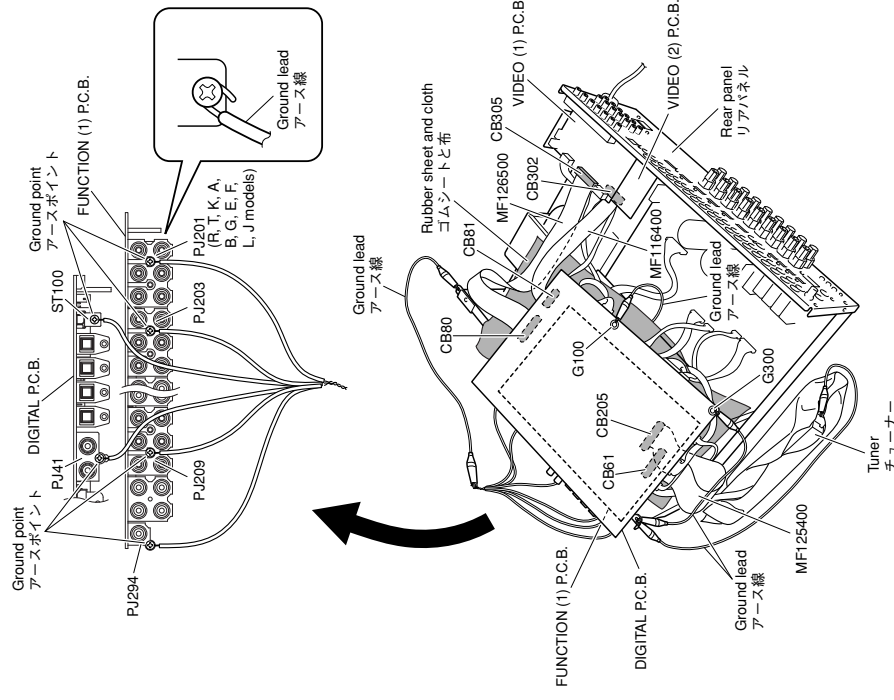

Fig. 10
- Put the rubber sheet and cloth over the equipment. Then place the FUNCTION (1) and DIGITAL P.C.B.s upside down on the cloth and check it. (Fig. 10)
- Be sure to use the extension cable for servicing for the following section. (Fig. 10)
- FUNCTION (1) P.C.B. CB205—DIGITAL P.C.B. CB61: MF125400 (25P, 400mm, P=1,25)
- DIGITAL P.C.B. CB80—VIDEO (1) P.C.B. CB305: MF126500 (26P, 500mm, P=1,25)
- DIGITAL P.C.B. CB81—VIDEO (2) P.C.B. CB302: MF116400 (16P, 400mm, P=1,25)
When FUNCTION (1) P.C.B. is removed from the rear panel and chassis, connect the ground point to the rear panel or chassis, using a ground lead or the like. (Fig. 10)
- FUNCTION (1) P.C.B.: PJ201 (PHONO)
- FUNCTION (1) P.C.B.: PJ203 (DVD)
- FUNCTION (1) P.C.B.: PJ209 (PRE OUT)
- FUNCTION (1) P.C.B.: PJ294 (SUBWOOFER2)
- DIGITAL P.C.B.: ST41 (XM) (U, C models)
- 本機の上にゴムシートと布を敷き、その上に FUNCTION(1)P.C.B.およびDIGITAL P.C.B.を裏返しに置いてチェックします。(Fig. 10)
- 次の区間は、サービス用延長ケーブルを使用してください。(Fig. 10)
(Fig. 10)